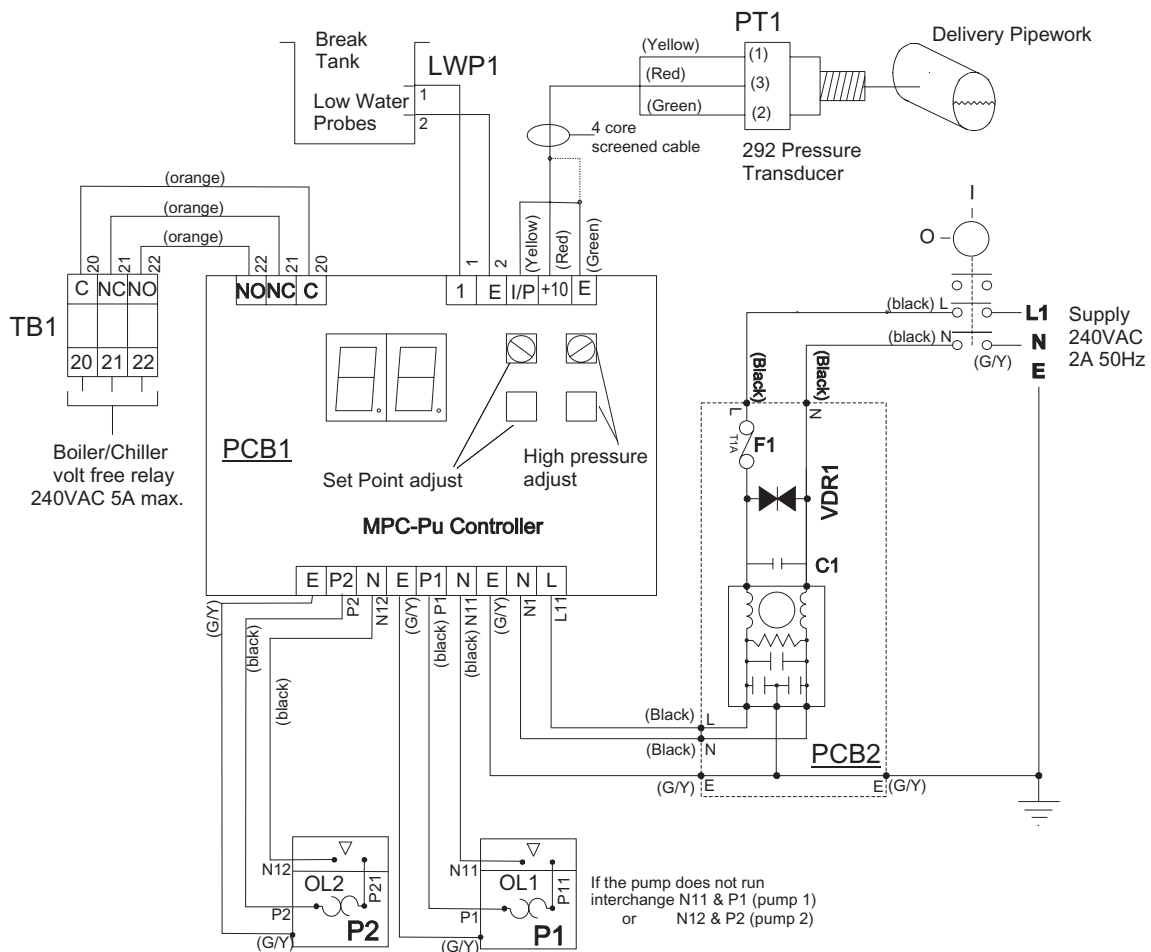
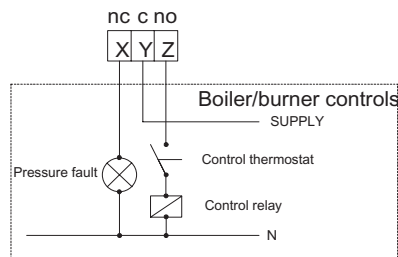

Fig 1.3a Typical 2ETM40 (standard) Wiring Diagram
Fig 1.4 Typical 2ETM40-E (BMS Enhanced) Wiring Diagram
- 1.3.6.3 Connect incoming electrical mains supply to identified terminals in panel (see fig.1.3a for 2ETM40 [standard] or fig.1.4 for 2ETM40-E [BMS Enhanced]). Ensure voltages and frequency indicated on the motor nameplates and wiring diagrams correspond with supply mains data and that the supply fuse ratings are correct for the total current rating of the equipment. Refer to wiring diagram supplied with the unit or AquaTech-Pressmain Ltd.
- 1.3.6.5 For 2ETM40-E (BMS Enhanced) units: Make any BMS connections required to terminals A-Z on Interface pcb card inside control panel. Connect boiler/chiller terminals nos. X,Y,Z on interface card in series with the boiler/chiller control circuits so that in the event of a fault condition occurring the boiler/chillers shut down and remain inoperative until the fault condition is rectified. (See fig 1.4). Boiler relay is energised for normal condition and releases to a high or low-pressure alarm fault condition.
**Flashing display giving type of fault and a various volt free output signals on BMS enhanced models.** (see wiring diagram provided with unit to see which volt free signal relays are present. Typical example shown in fig. 1.4).